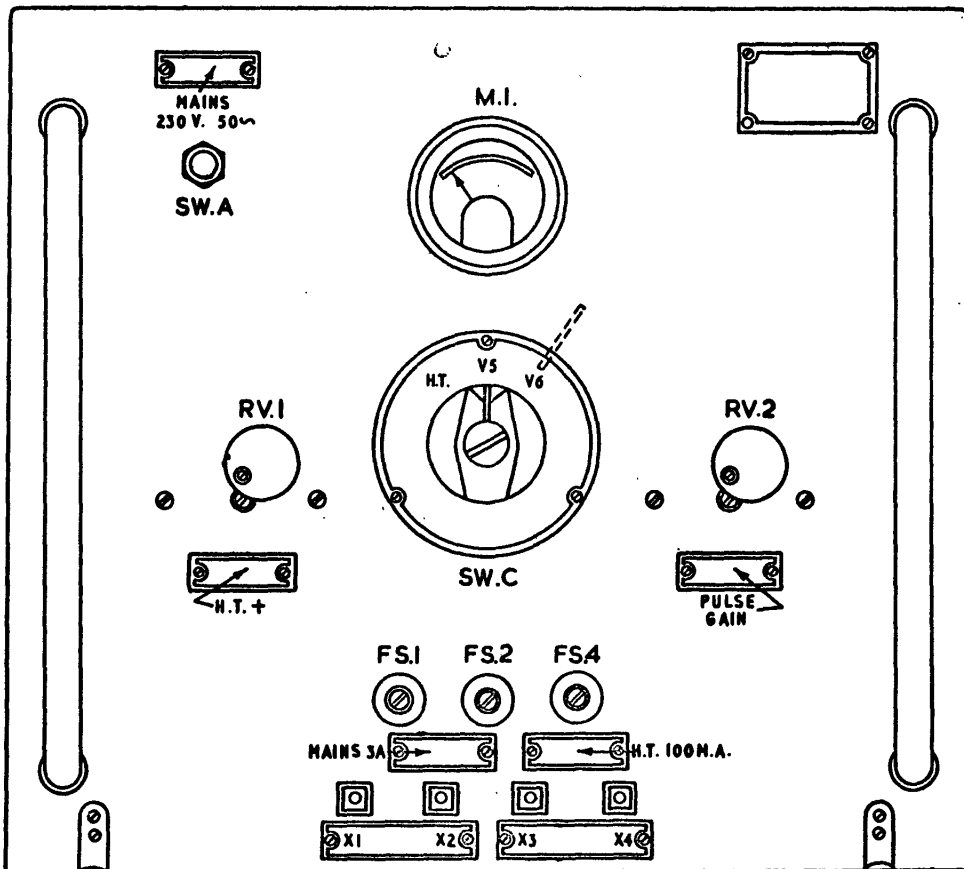
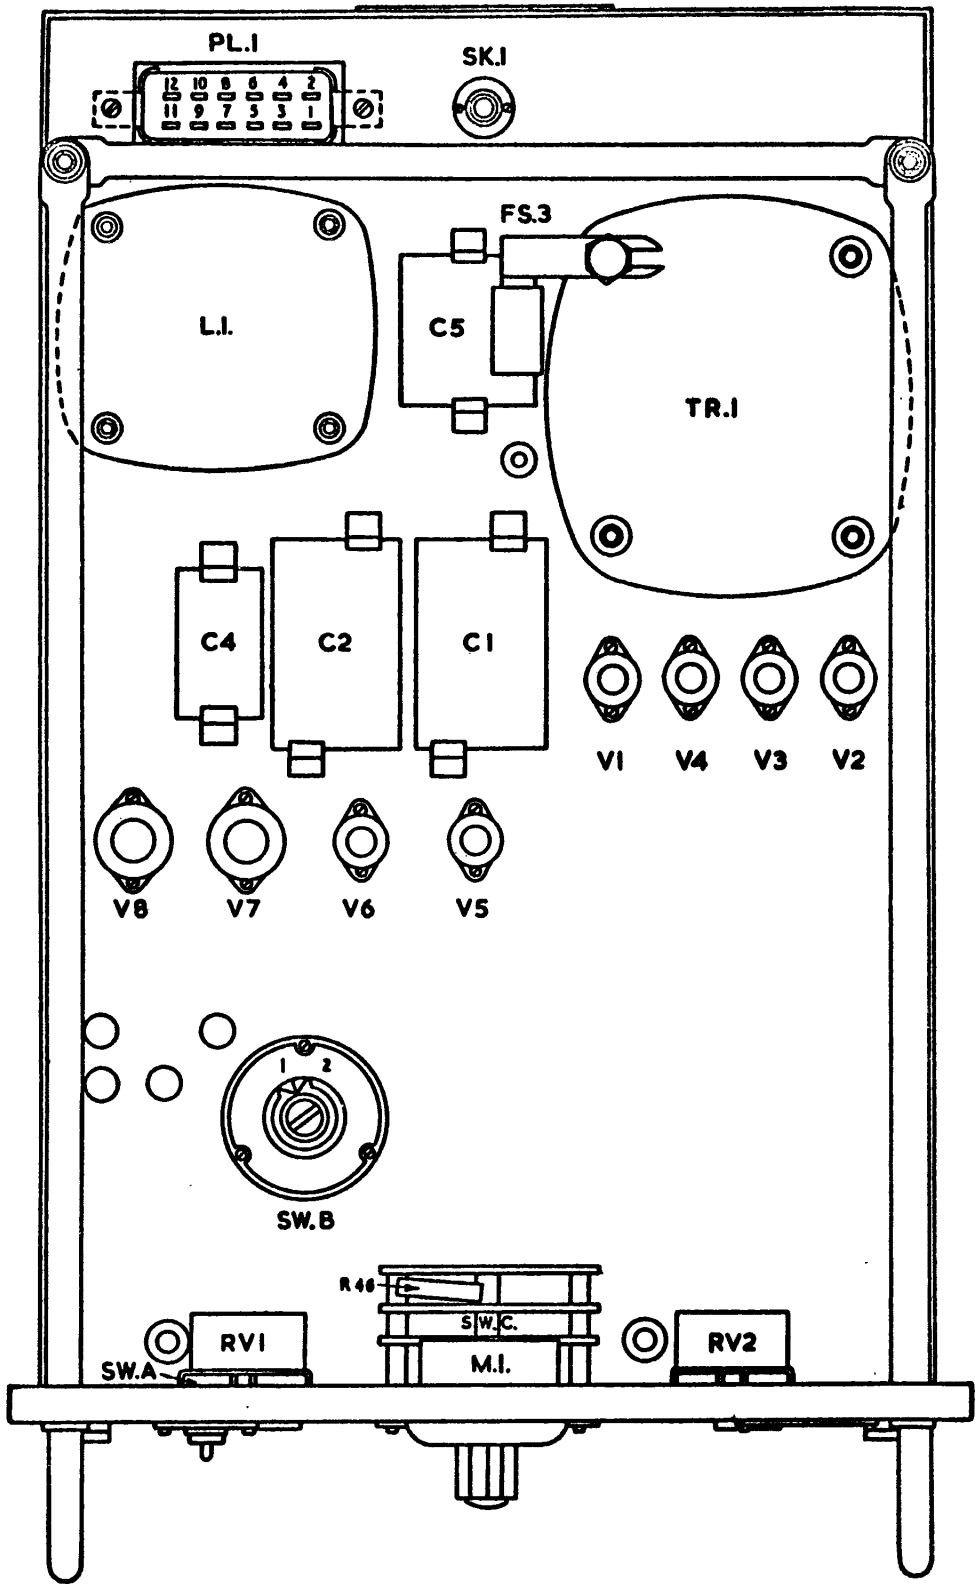
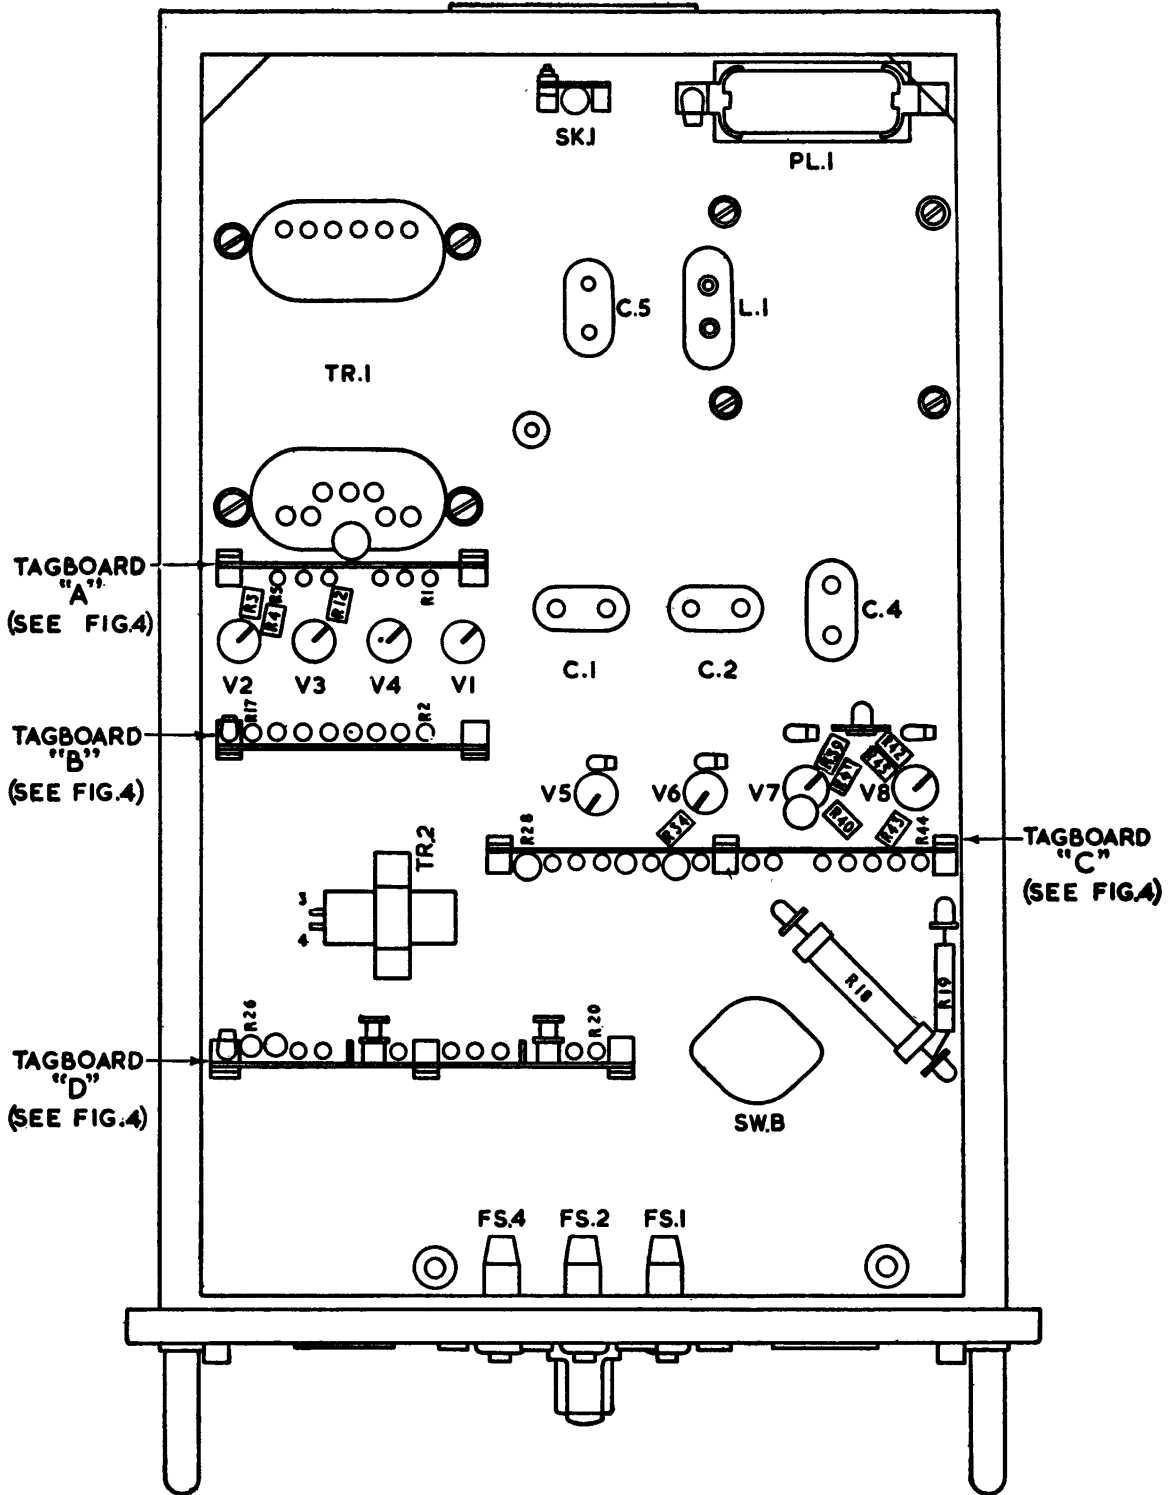
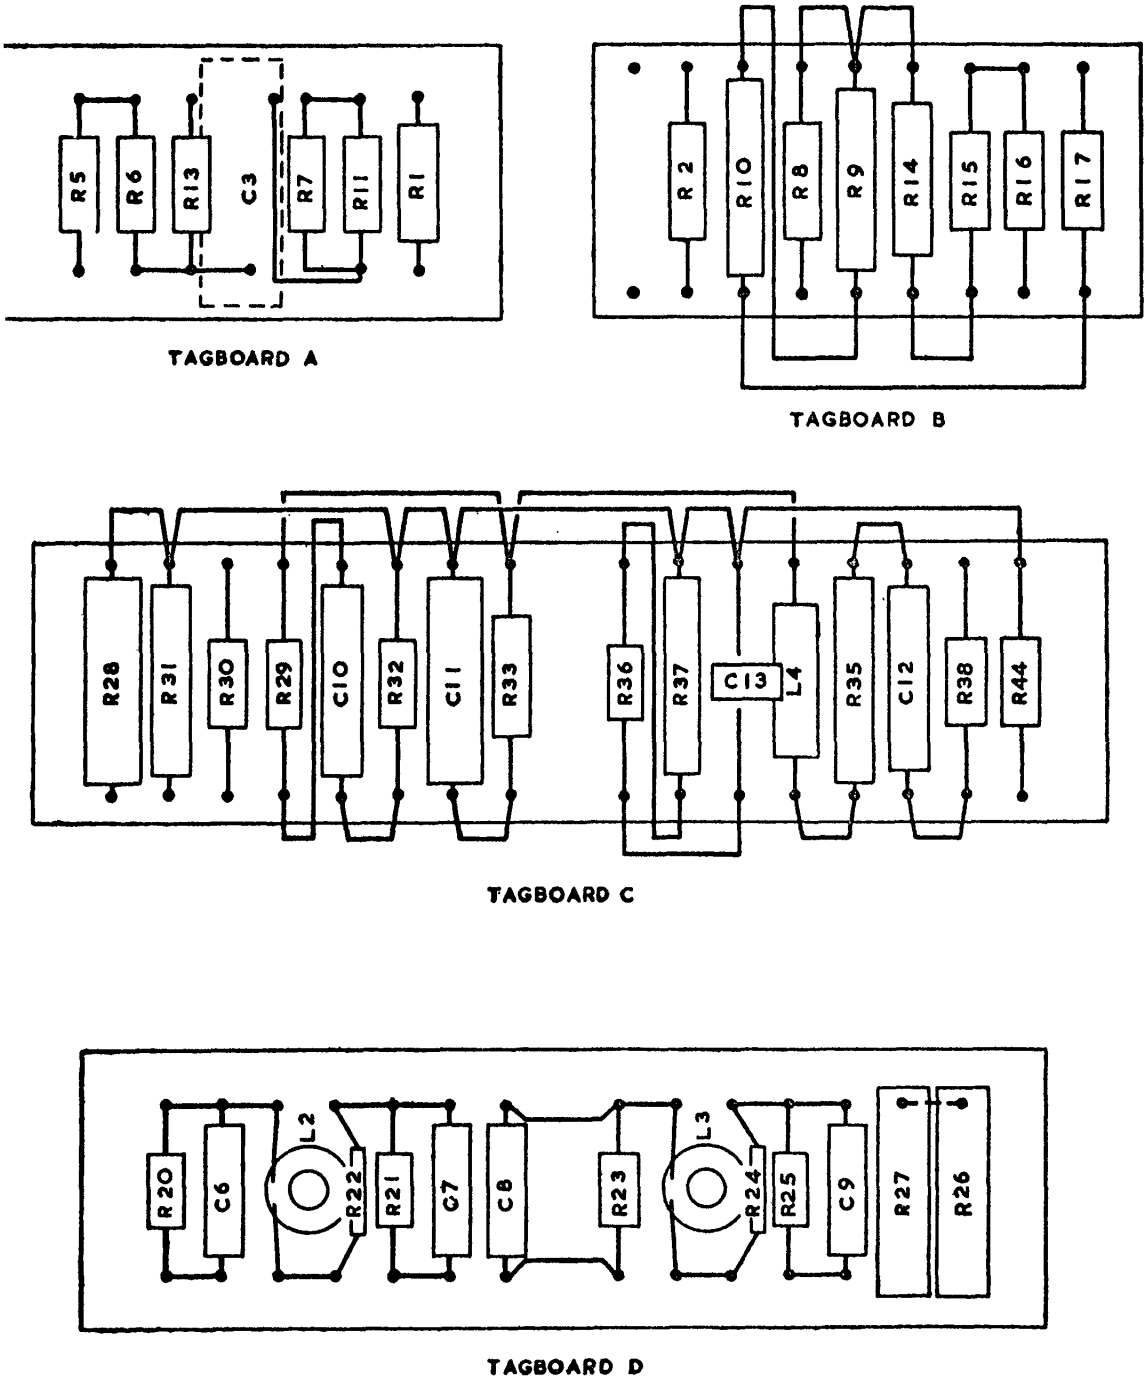

Fig. 1. Front panel
Fig. 2. Plan view
Fig. 3. Under chassis view
Fig. 4. Layout of tagboards
4. The self-contained power pack, operating from a 230V, 50c/s mains supply, provides all heater requirements and a stabilized 325V output for HT and bias. There are facilities for measurement of valve currents and HT voltage on a built-in meter. Monitoring points, for the display of internal waveforms, are brought out to sockets on the front panel. A diagram of the front panel is given in fig. 1 and plan views of the chassis in fig. 2 and fig. 3. Component layout of the tag-boards is shown in fig. 4.